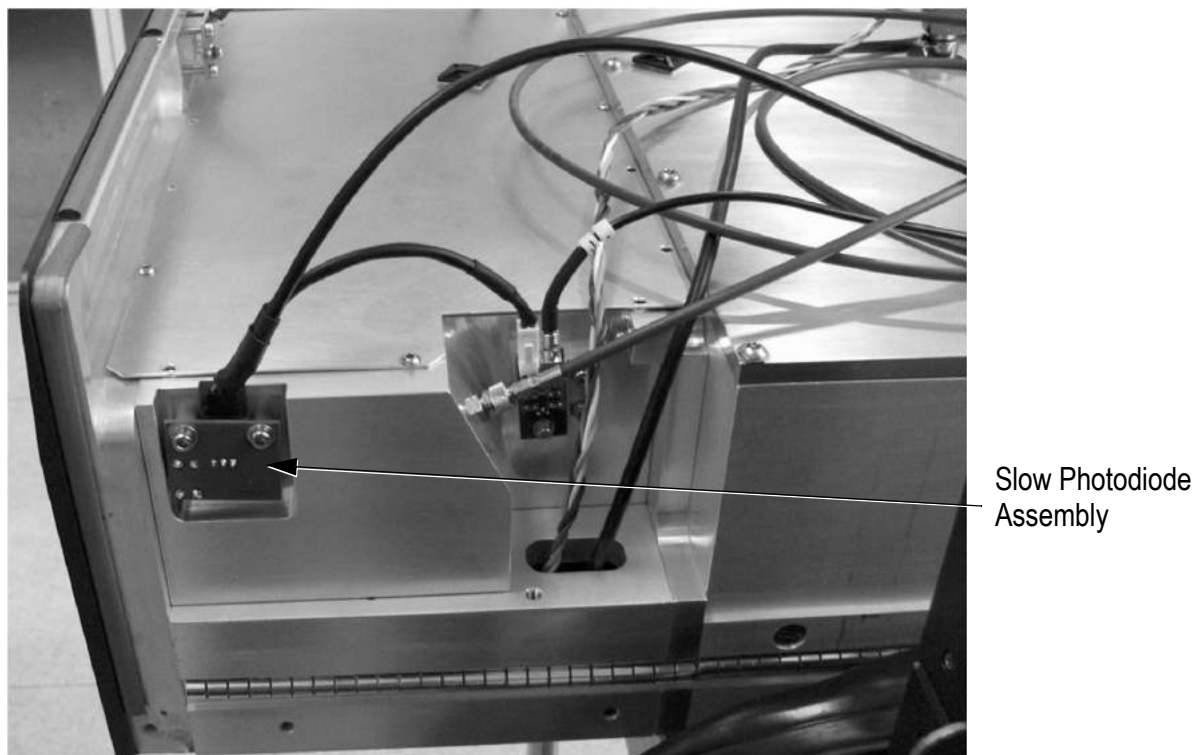

Figure 5.16-1. Slow Photodiode Assembly
4. Refer to Figure 5.16-1 below. Remove the cable from the Slow Photodiode circuit board.